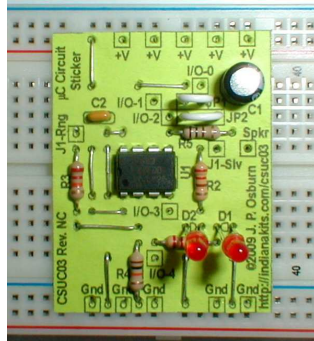

Figure 5 - CSUC03 Circuit Sticker Construction
- ◇ The bare wire jumpers are indicated on the Circuit Stickers by straight lines. Use recycled component leads or 22AWG solid wire to form the jumpers. See Figure 5 as an example.